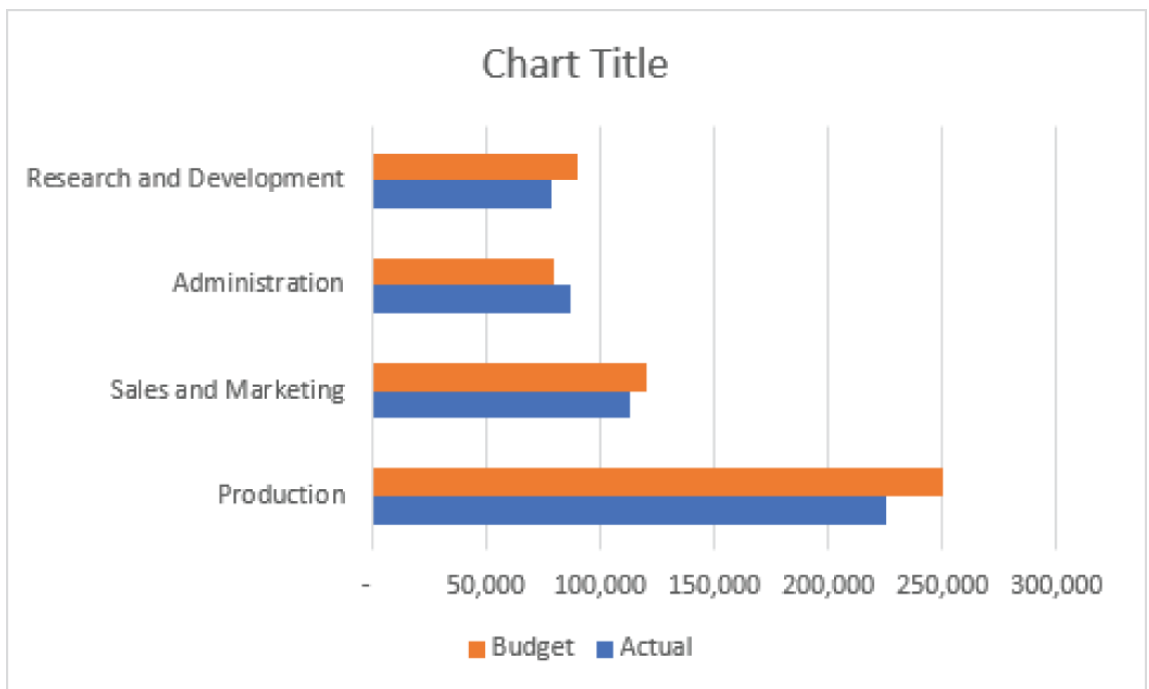

Figure 7.13: A clustered bar chart
1. From the Insert tab, select Recommended Charts and choose the Clustered Bar chart type. Figure 7.13 shows the resulting chart.